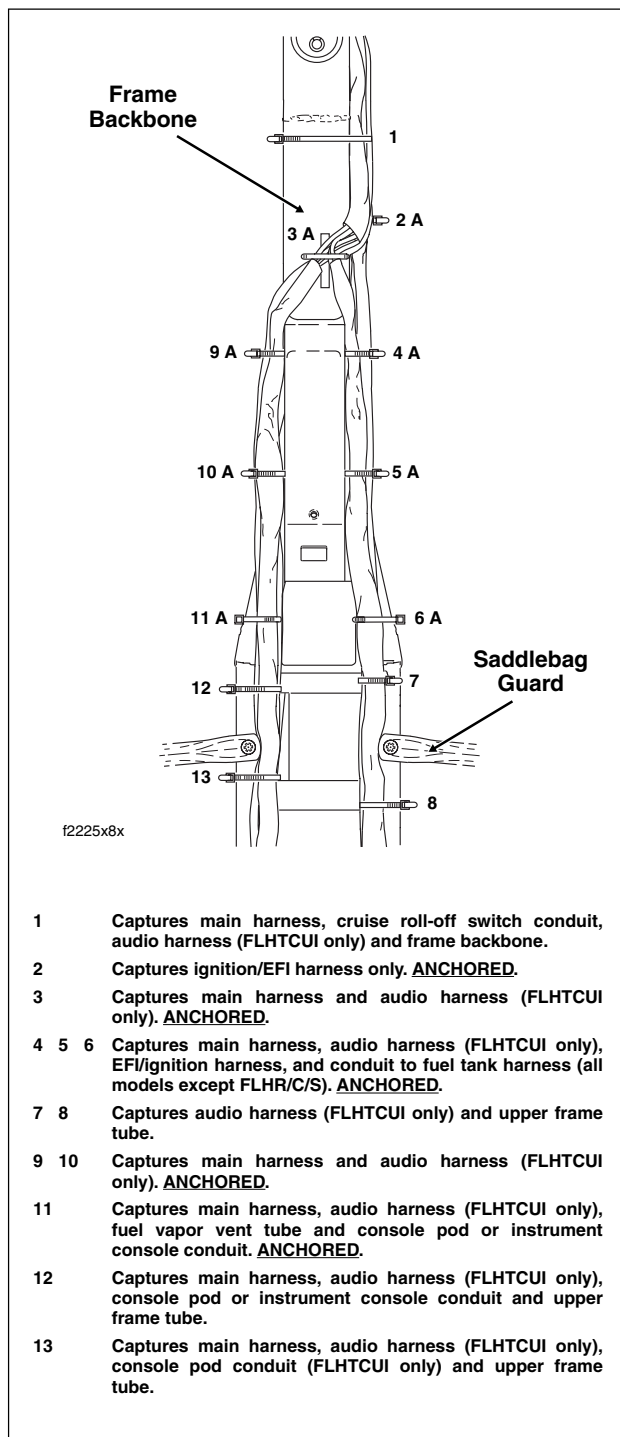

Figure 8-148. Cable Strap Locations
10. Moving rearward, carefully cut **eleven** cable straps securing main harness to frame backbone and right and left frame tubes. See Figure 8-148.
3. Moving rearward, carefully cut **eleven** cable straps securing main harness to frame backbone and right and left frame tubes. See Figure 8-148.
7. Moving rearward, carefully cut **eleven** cable straps securing main harness to frame backbone and right and left frame tubes. See Figure 8-148. Carefully cut any cable straps securing main harness to audio harness.